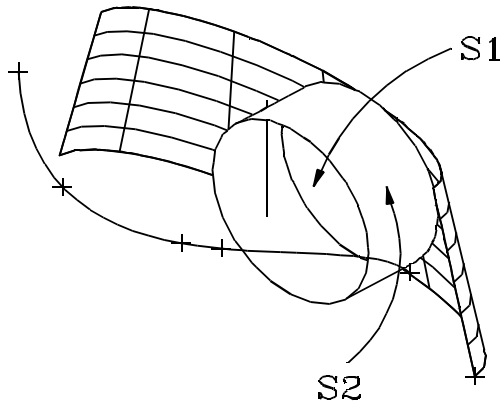

Figure 16:
36. Click on S1 (the back plane) and S2 (the cylinder), as shown in Figure 16. When you click on the surfaces, make sure that there is no geometry inside of the cursor.